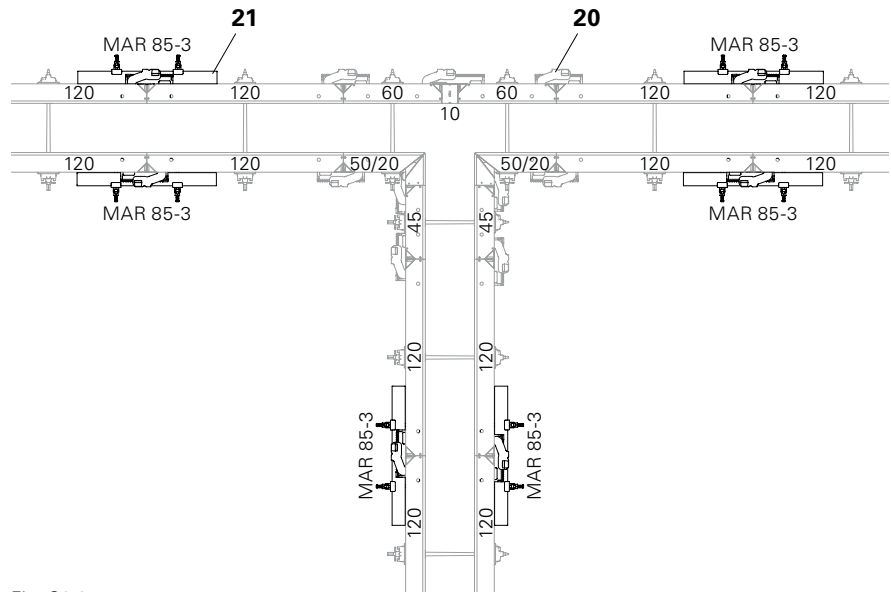

Fig. C6.01
For panels with widths $b \leq 120$ following 90° T-junctions, these must be strengthened at the next panel joint by means of a Compensation Waler MAR 85 (21). (Fig. C6.01)